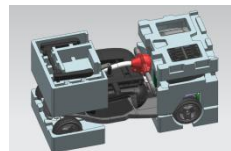

Figure 11.3
3.Put on the battery and the car basket weights, close the carton and secure it with professional ropes to form a complete package (Figure 11.3).